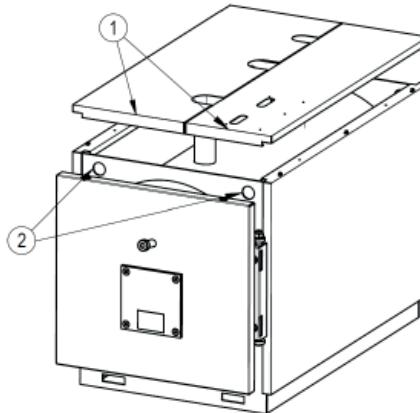

fig. 5
5.2.1 Para modelos PREXTERM RSW 92N÷600N (Fig. 5)